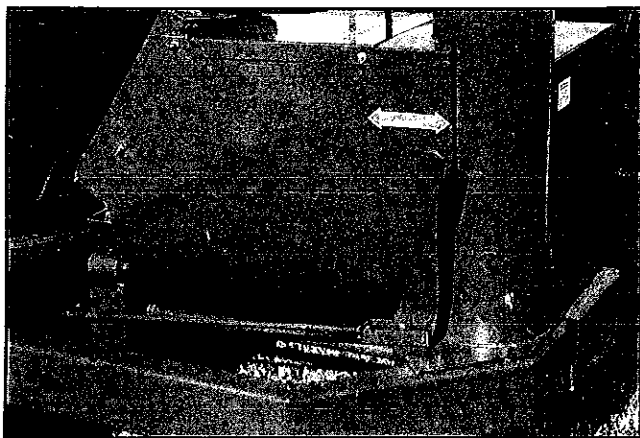

FIGURE 15 - UNLOADING CLUTCH OPERATION
1. **UNLOADING CLUTCH DRIVE:** (see Figures 15 & 16, page 16) Move the clutch handle ahead and down to engage the augers. Open the unloading door, the eccentric may be used to hold open. When tank is unloaded, reverse procedure.